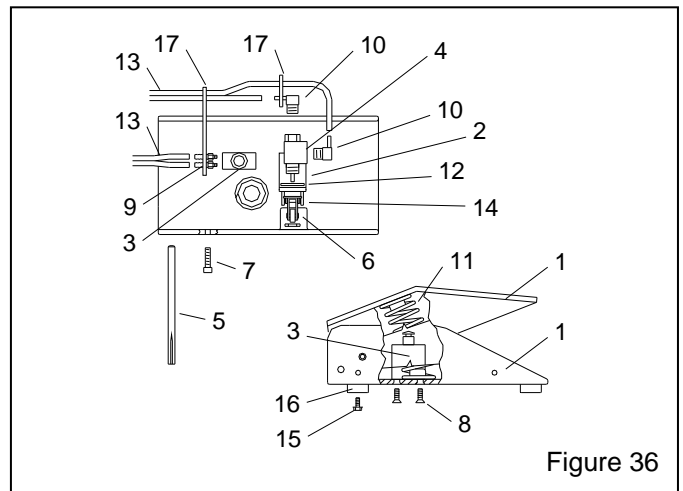

Figure 36
10.6 Foot Pedal Assembly – Figure 36